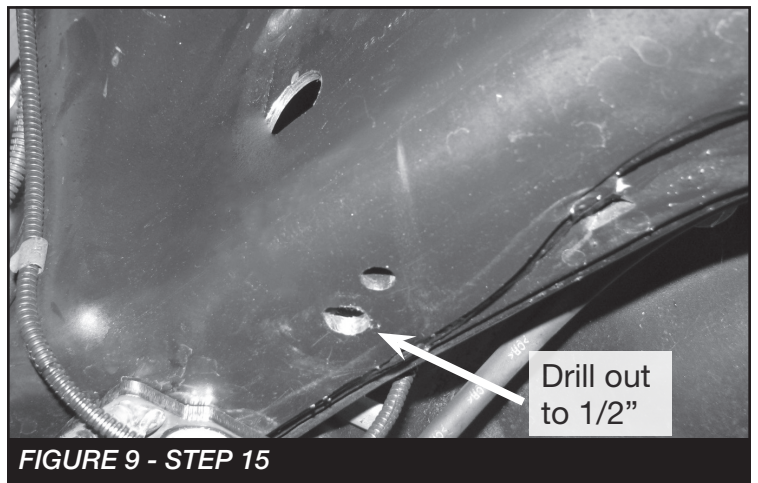

FIGURE 9 - STEP 15
15. Drill out the factory bump stop mount hole to 1/2". **SEE FIGURE 9**